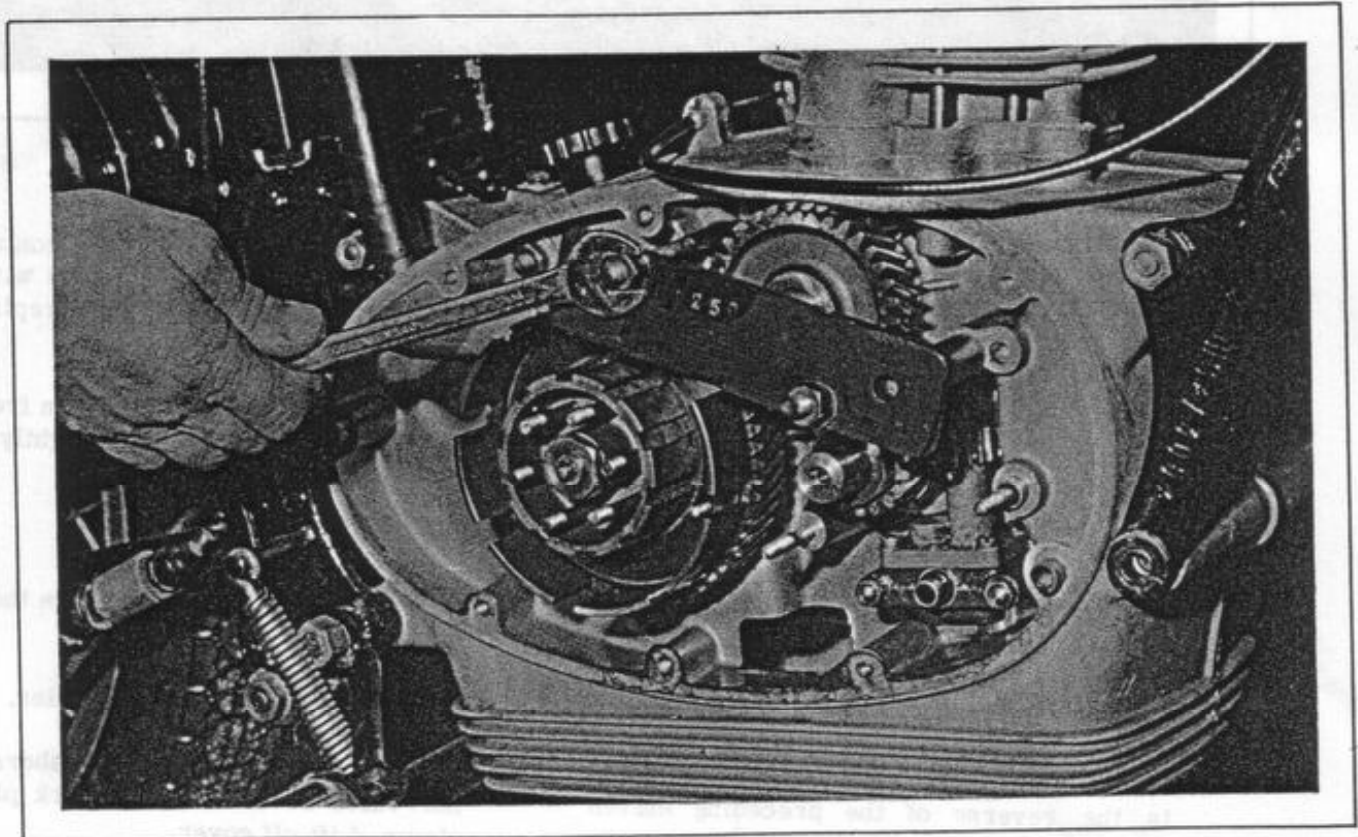

Figure 24.
8. If the camshaft remains in the crankcase bearing, use puller 00 to pull out the camshaft (Figure 24). Lift the tappets as the camshaft is withdrawn.